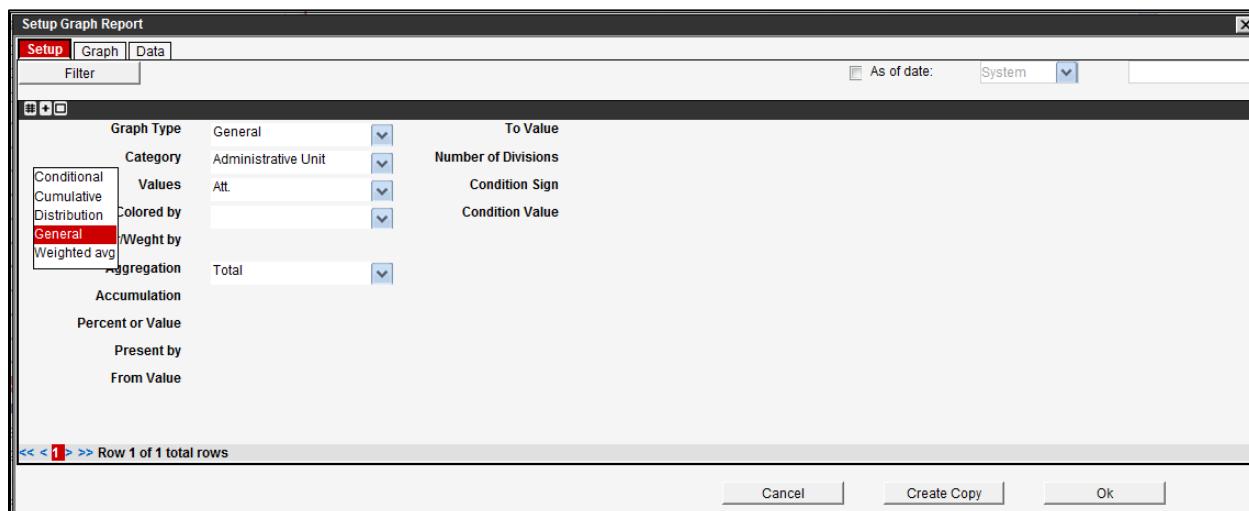

Figure 2-11. Setup Graph Report Dialog Box – Setup Tab Example (Record View)
**TIP!** The Setup Graph Report dialog box (Figure 2-11) is opened to the **Setup** tab.